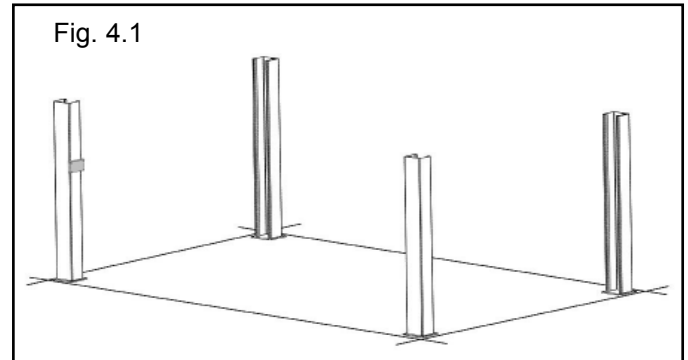

Fig. 4.1
1. Before proceeding, double check the measurements and make certain that the Bases of each Column are square and aligned with the chalk line. (See Fig. 4.1)